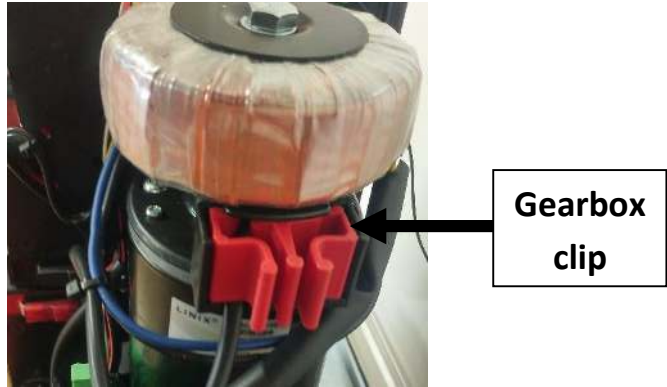

Figure 10a
2. Remove the red gearbox clip (Figure 10a)
Remove the red gearbox clip (Figure 10a)